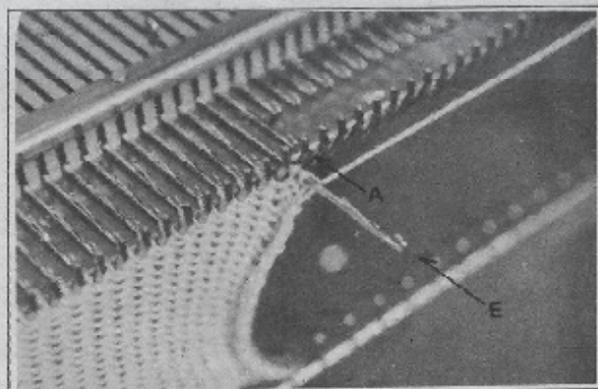

Fig. 1
3. Hook this stitch onto the next inside needle and pull this needle forward to "E" position. (Fig. 1)